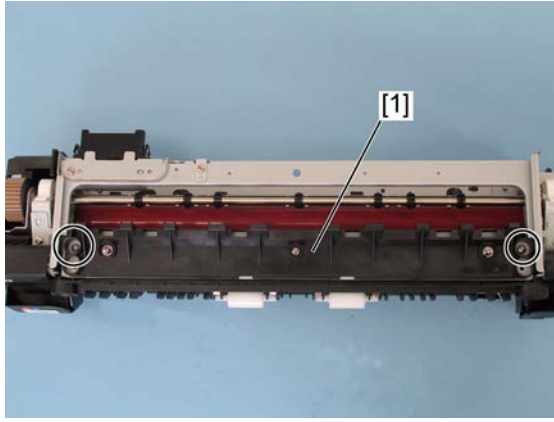

Fig.8-46
2. Adjust the inlet guide[1] of the fuser unit and check if the paper wrinkle disappears. (Fig.8-46)